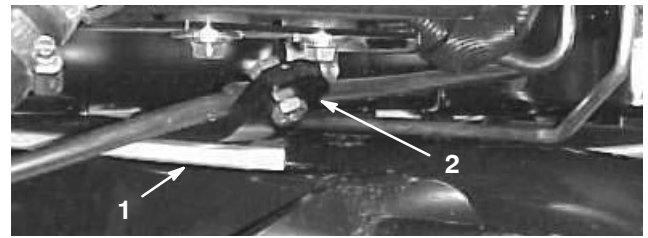
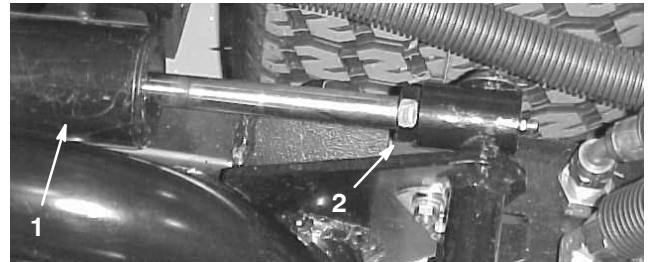

Figure 8
Figure 9
3. Start the engine, raise the decks, and check to make sure that the clearance between the wear strap on the top of the rear cutting unit wear bar and the bumper strap is 0.02–0.10 in. (0.51–2.54 mm) (Fig. 8). If the clearance is not in this range, adjust the rear cylinder to attain clearance. To adjust the cylinder, lower the cutting units and back off the jam nut on the cylinder (Fig. 9). Grasp the cylinder rod close to the nut with a pliers and rotate the rod. Raise the cutting units and check the clearance. Repeat the procedure if required. Tighten the clevis jam nut.